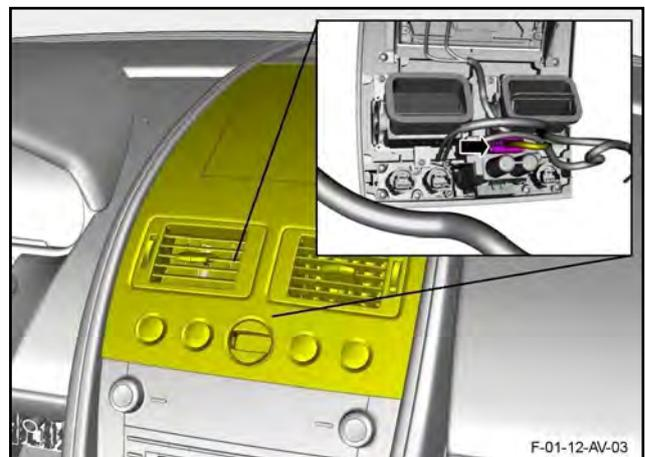

Figure 29
- 38. Disconnect the electrical connector from the ignition switch module (refer to Figure 29).